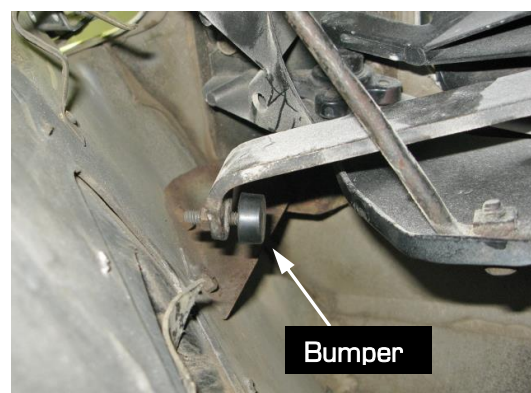

Figure 14 - Install Round Bumper
14. Install the provided round bumper onto the adjustable stop on both sides of the vehicle (Fig. 14).